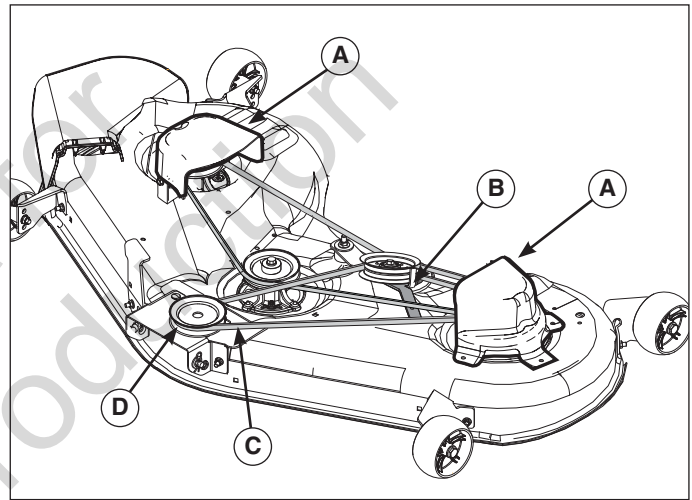

Figure 24
3. Remove screws and cover (A, Figure 24) for left blade spindle.
4. Pull the idler pulley lever (B) to relieve belt tension. Remove the belt (C) from the PTO pulley (D).
3. Remove screws and covers (A, Figure 24) for left and right blade spindle.